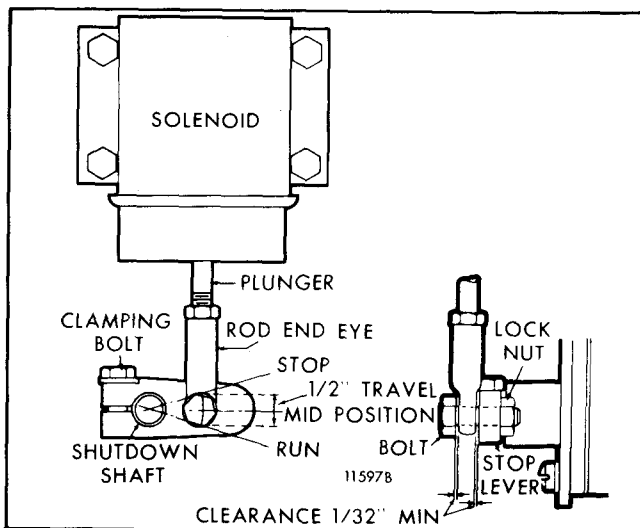

Fig. 8 - Typical Variable Speed Governor Lever Position
1. Remove the bolt connecting the rod end eye (variable speed governor) or the right angle clip (limiting speed governor) to the stop lever (Figs. 8 and 9). Align and clamp the lever to the shutdown shaft in such a way that, at its mid-travel position, it is perpendicular to the solenoid plunger. This assures that the linkage will travel as straight as possible. The solenoid plunger has available 1/2" travel which is more than adequate to move the injector control racks from the full-fuel to the complete no-fuel position and shutdown will occur prior to attaining complete travel.